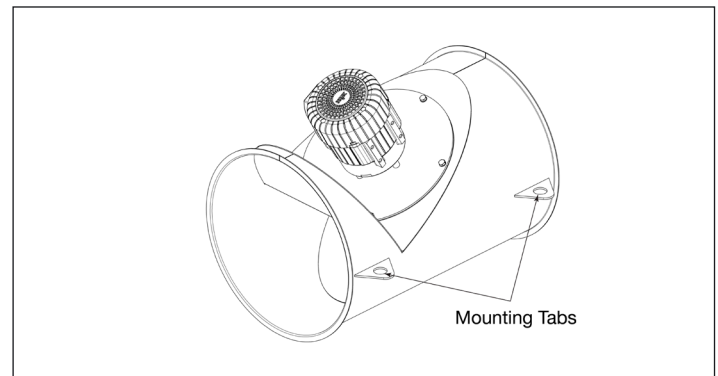

Fig 4
The TDF has four (4) 1" diameter mounting tabs on each end of the power venter (Fig. 4). Threaded rod or steel hangers should run through these holes to hang the power venter from the ceiling or other support.